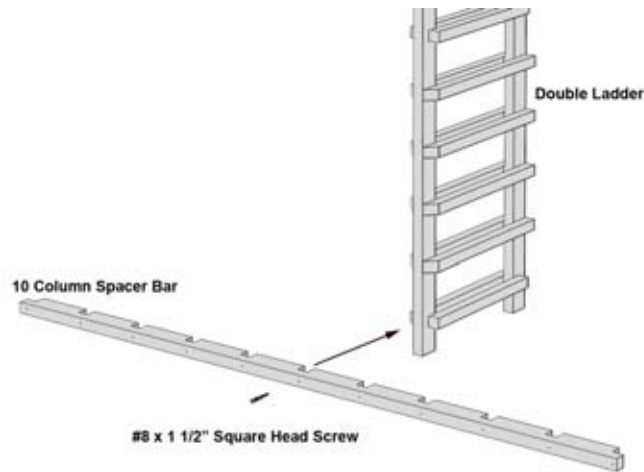

Figure 1
2. Set the double-sided ladder with the back on the floor (angled slats facing up) and fit the 10 column spacer bar on the front upright of the ladder by placing the dados (or grooves) of the spacer bar onto the upright (**Figure 1**). It may be necessary to tap the spacer bar lightly with a soft-faced hammer to fit, taking care to align the spacer bar vertically with the spacer slat behind it.